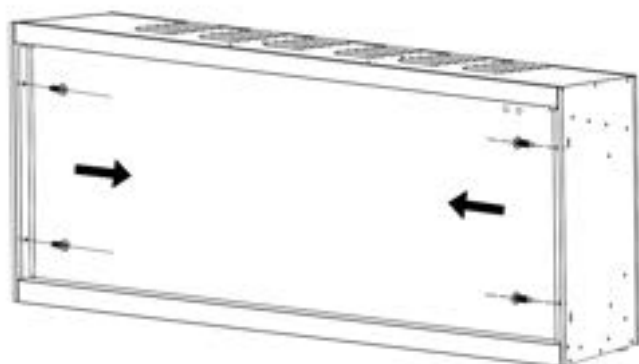

Fig. 2-1
- Take off the screws on both side.(Fig. 2-1)